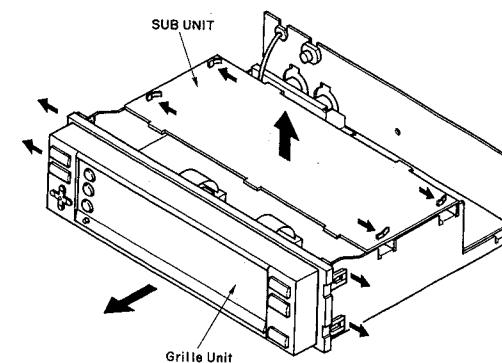

Fig. 2
• Removing the Sub Unit (Fig. 2)